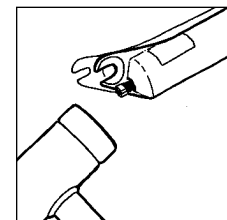

Fig. 4
2. Partially loosen shaft bolts with a 6 or 8mm hex wrench, tap bolts firmly with a mallet breaking shafts free from lower tube, and remove bolts completely (see Fig. 4).